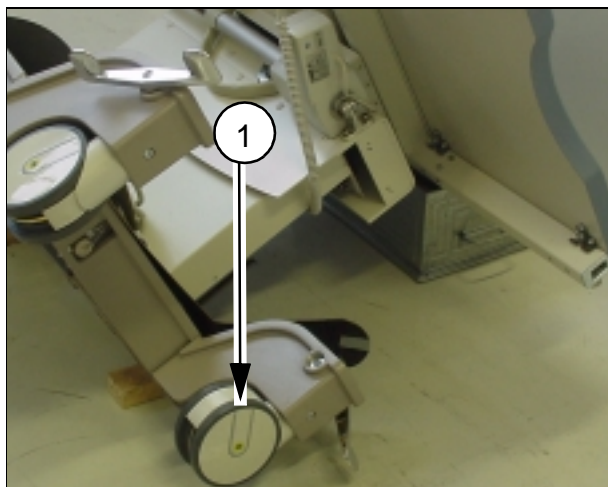

Fig. 7
- Before uprighting the table bring the lower castors into the position shown (1/Fig. 7).